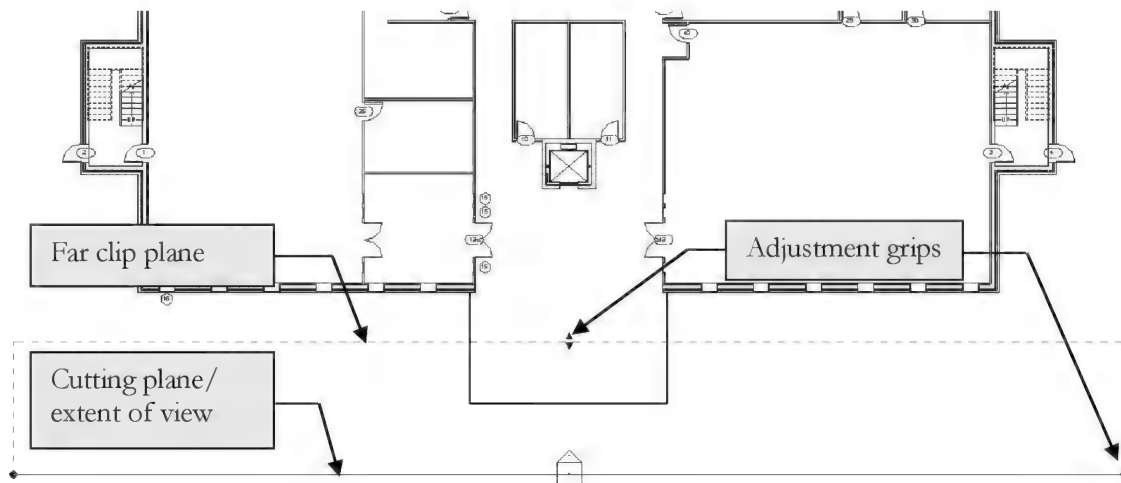
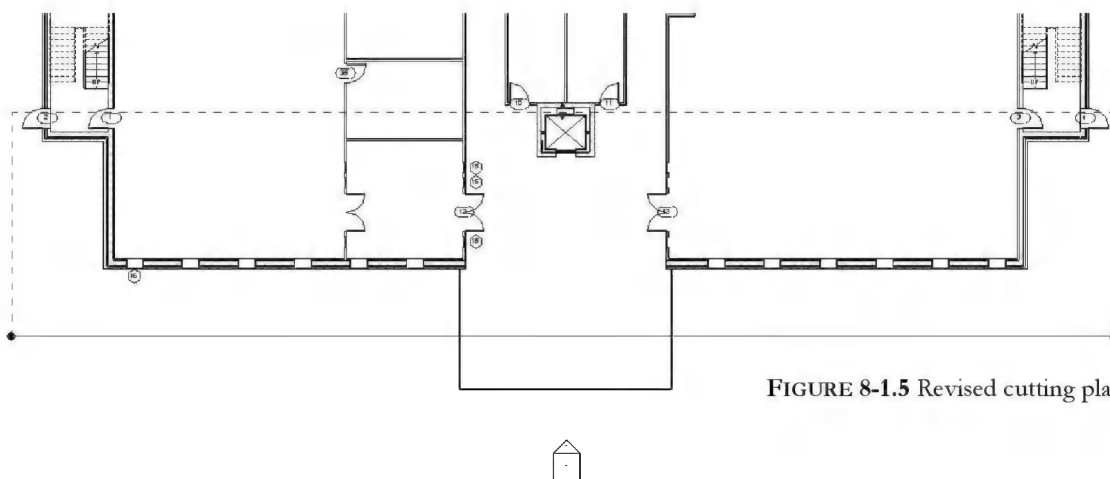

FIGURE 8-1.3 Selected elevation tag
FIGURE 8-1.5 Revised cutting plane
Your elevation tag should look similar to Figure 8-1.3.
The elevation tag, as selected in Figure 8-1.3, has several features for controlling how the elevation looks. Here is a quick explanation:
15. With the elevation tag still selected (as in Figure 8-1.3), drag the “cutting plane/ extent of view” line up into the atrium as shown in Figure 8-1.5.